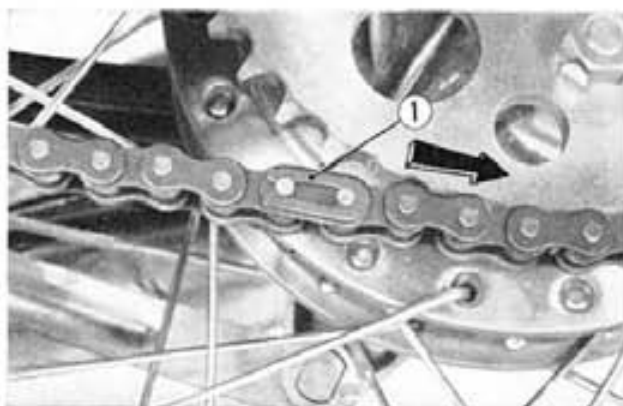

Fig. 19-20 ① Retaining clip
- e. Correctly route drive chain onto the sprockets using the rear sprocket to position the chain ends while installing the master link, link side plate and retaining clip. Note that the closed end of the retaining clip must face the direction of forward wheel rotation. (Fig. 19-20)
- (3) Check the drive and driven sprockets for wear in the teeth and replace the worn sprocket with a new one when it is badly worn.